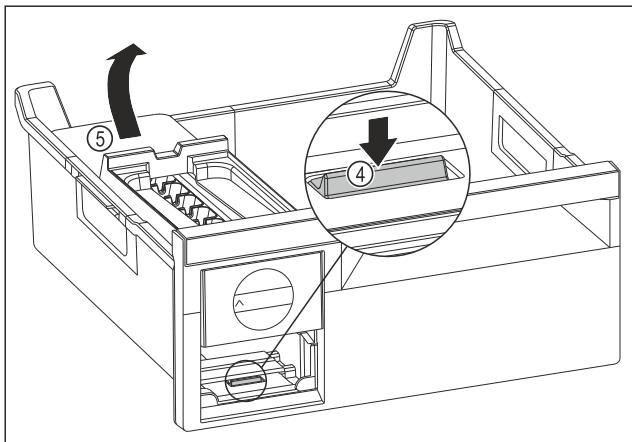

Fig. 158
- ▶ Removing the EasyTwist-Ice body: Use your finger to push the tab *Fig. 158 (4)* down and use your other hand to lift the EasyTwist-Ice body *Fig. 158 (5)* from behind at the same time.